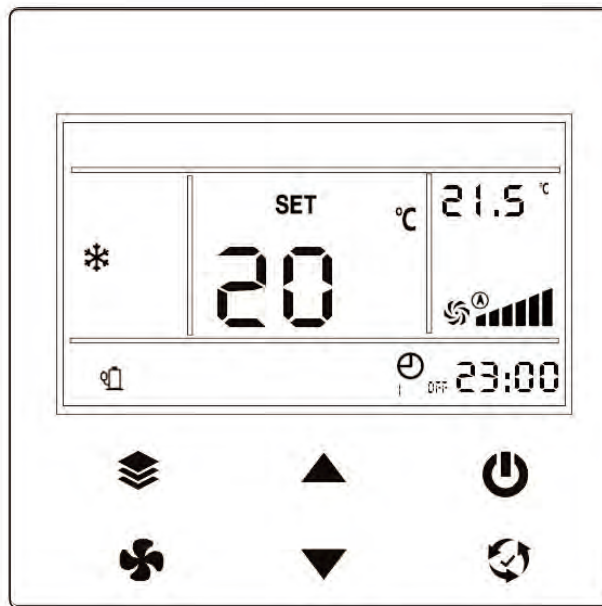

Figure 11. The timing setting is completed, and the timing task closest to the current time is displayed by default
5. After the timing of the time period is completed, the timing time stops flashing, and the timing task that will be executed first is displayed. For example, the current time is 10:00 and the unit is in the power-on state, and the unit shutdown task at 23:00 in period 1 will be executed first. The display interface is shown in Figure 11